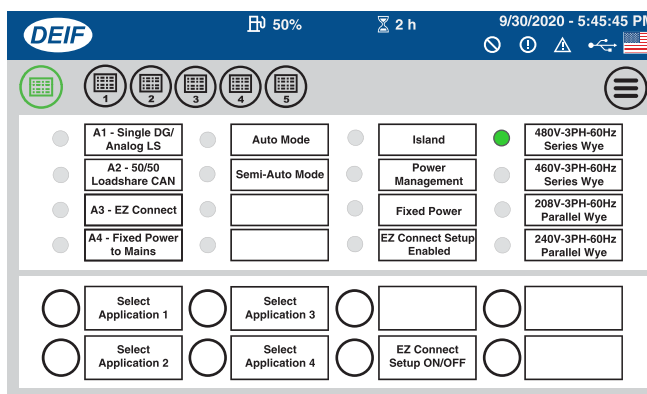
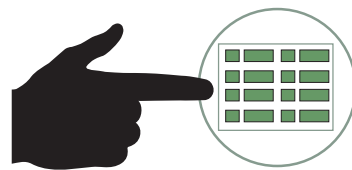

Figure 84. Main AOP Screen
Figure 85. Main AOP Button
2. Verify that the **Main AOP screen** (Figure 84) is displayed.
3. If the Main AOP screen (Figure 84) is not displayed, press the **Main AOP button** (Figure 85).
- Verify that the **Main AOP screen** (Figure 94) is displayed. If the Main AOP screen is not displayed, press the **Main AOP button** (Figure 85).